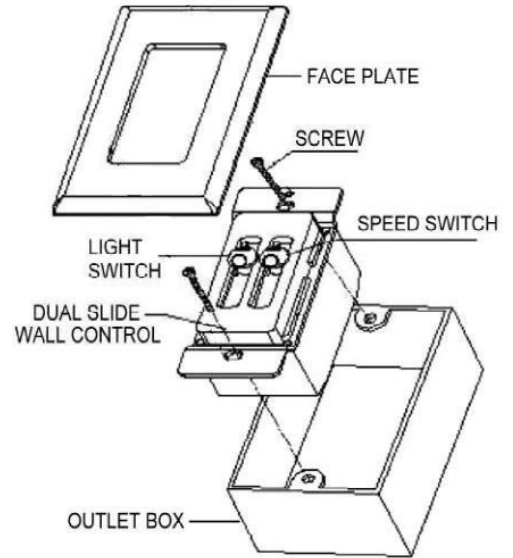

Figure 3
4. Secure the wall-mounted control to the outlet box with two screws provided. (Figure 3)